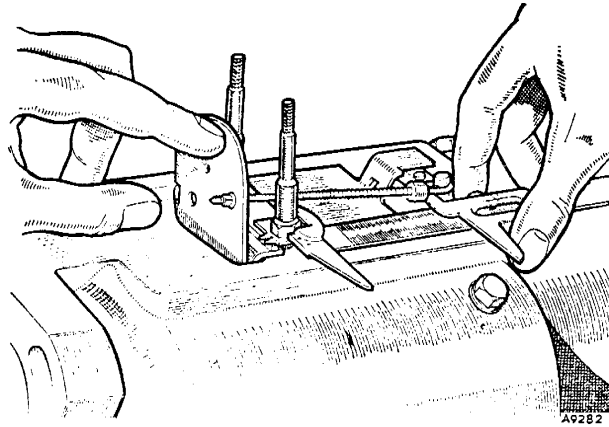

Fig. C.13
- (59) Tighten the two hydraulic head locking screws, the hydraulic head locating bolt, and the advance unit cap-nut, to the torque figures given in 'GENERAL DATA'. Tighten the advance unit end plug and spring cap to the torque figures given in 'GENERAL DATA'.
- (60) Insert the metering valve into its bore in the hydraulic head.
- (61) Assemble the governor arm, control bracket, and governor arm spring, then fit the assembly to the pump housing, ensuring that the lower end of the governor arm engages the stepped face of the thrust sleeve flange. Fit the keep plate with its open end towards the shut-off bar, and fit new tab washers with their pointed tabs towards the governor arm. Screw in the two control cover studs to the torque figure given in 'GENERAL DATA' and secure them with the pointed tabs.
- (62) Fit the small screw and tab washer to the metering valve end of the control bracket. Tighten the screw to the torque figure given in 'GENERAL DATA' and lock it with the tab washer.
- (63) Assemble the spring retainer, spring, and linkage washer onto the linkage hook. Pass the threaded end of the hook through the governor arm, fit the pivot ball washer and backing washer, and screw on the linkage nut about three turns.
- (64) Press back the spring retainer and attach the linkage hook to the metering valve so that the hook end is turned towards the metering valve.
- (65) Press the governor arm lightly in the direction of the metering valve and, using a vernier gauge held parallel to the pump axis, set the governor link length (see Fig. C.13) to the dimension given in 'GENERAL DATA'. This adjustment is made by slackening or tightening the linkage hook nut.